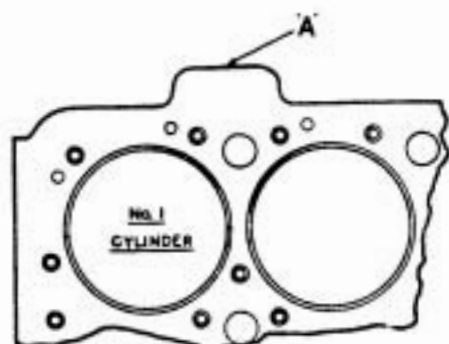
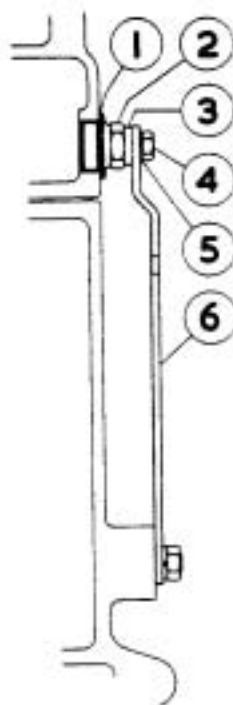

FIG. 8. SCRAP VIEW SHOWING CRANKCASE LUG ('A').
FIG.12. METHOD OF
- (vi) File back the face of the crankcase front lug, 'A' Fig. 8 and fit the stud (1) KB-751/2 as described in sub-para. (iv) of Para. 3 for Scheme 'A'.
8. METHOD OF FIXING UPPER END OF FILTER MOUNTING PLATE TO CYLINDER HEAD WHEN THE CRANKCASE FRONT LUG 'A' FIG.8 IS ABSENT (REFER TO FIG. 12.)